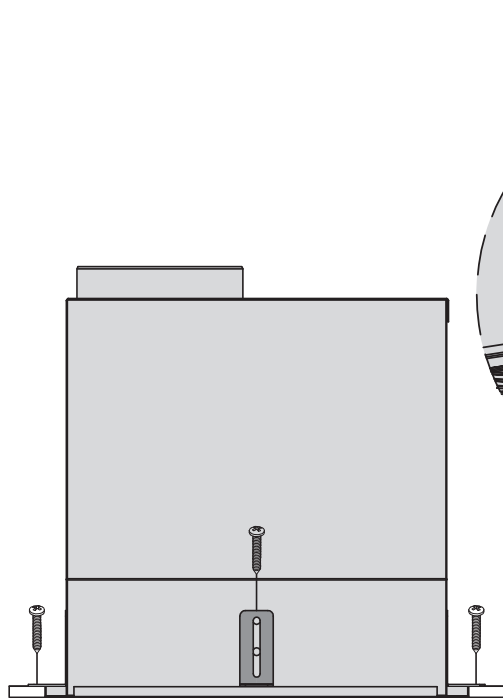

Figure 5
- Using appropriate mounting screws (not included), attach the L shaped bracket to the base of custom hood or hood liner (see Figure 5, 6 and 7).